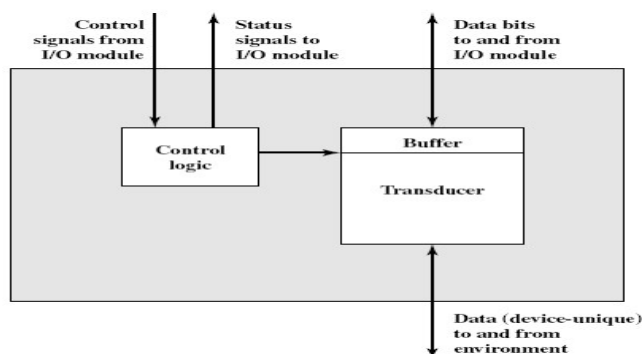

Figure 7.2 Block Diagram of an External Device
- In very general terms, the nature of an external device is indicated in Figure 7.2. The interface to the I/O module is in the form of control, data, and status signals.
- This communication involves commands, status information, and data as Figure 7.2.